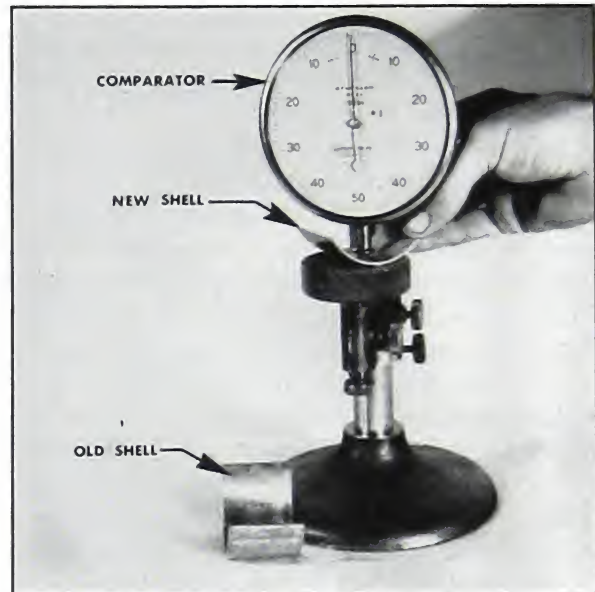

Fig. 2-45. Gauging shell thickness
3. Shell thickness must always be measured with ball point micrometers or with a comparator as shown in Fig. 2-45. The difference in shell thickness of a new and an old half will indicate wear of the shell and twice this difference will indicate additional oil clearance caused by bearing wear. Shells should not be re-used if worn more than .002 in thickness or if they are scored or damaged in any other way than by normal wear. Total worn maximum oil clearance must